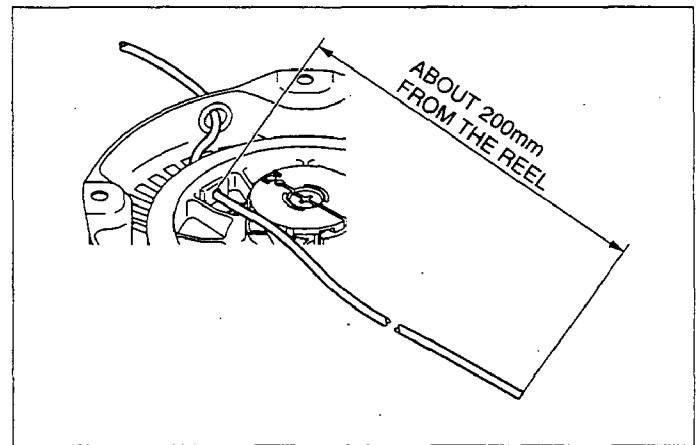

Fig. 9-7
- (3) Tightening the set-screw.
- (4) Storing the spring-power.
-2: Set the ree to keep the position, whereby the rope hole of the reel and the rope guide make a direct line. (Fig. 9-7)
- (5) Setting the rope. (2 persons required)
-1: Set the end of the rope through the rope guide and the rope hole of the reel and pull the end about 20 cm out of the reel. (Fig. 9-7)